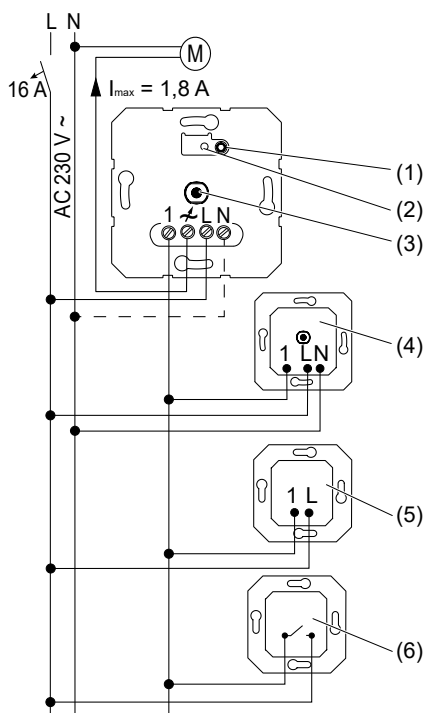
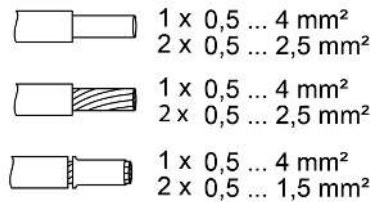

Figure 1: Connection diagram with optional extensions
Figure 2: Clampable conductor cross-section
- Connect the device according to the wiring diagram (Figure 1). Observe the clampable conductor cross-sections (Figure 2).
- i** The motor can be switched by briefly pressing the **Test** button (1).